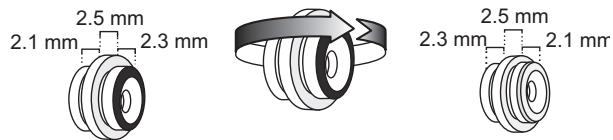

Figure 16. Reversing the Mounting Button
4. Unscrew and remove the mounting button. Turn it around 180°. Secure the mounting button to the ePDU (see Figure 16).